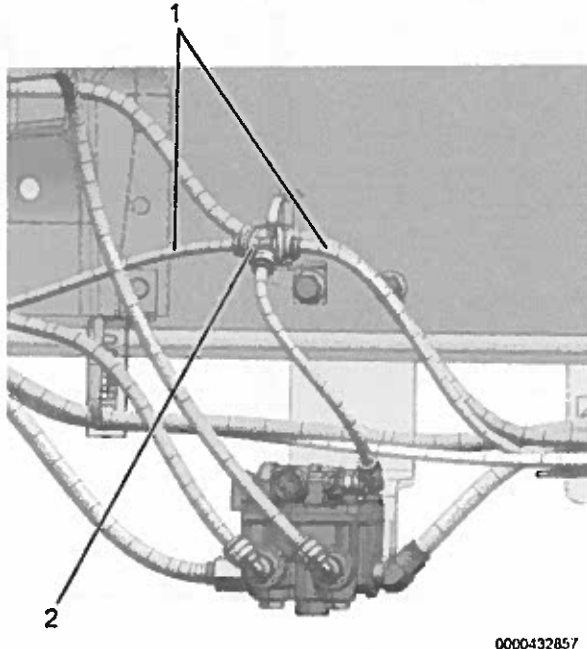

Figure 5. T-Fitting Airlines
22. Install two 3/8-inch ORANGE airlines (Figure 5, Item 1) previously removed in Steps 12 and 14 into each end of 3/8-inch T-fitting (Figure 5, Item 2).